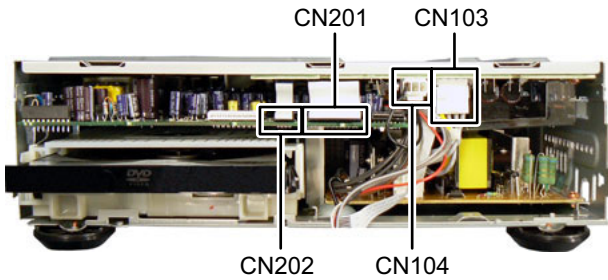

Fig.8
### 3.1.3 Removing the Top chassis (See Fig.8 to 10)
- (1) Disconnect the card wires from Amp board connected to connectors **CN201** and **CN202** of the Main board. (See Fig.8)
- (2) Disconnect the connector wire from Power supply unit connected to connector **CN103** of the Amp board. (See Fig.8)
- (3) Disconnect the connector wire from Main board connected to connector **CN104** of the Amp board. (See Fig.8)